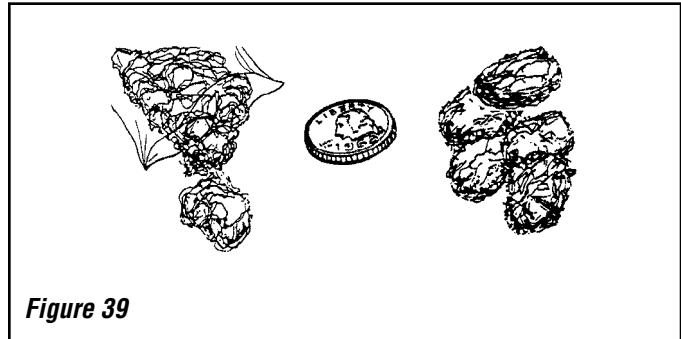
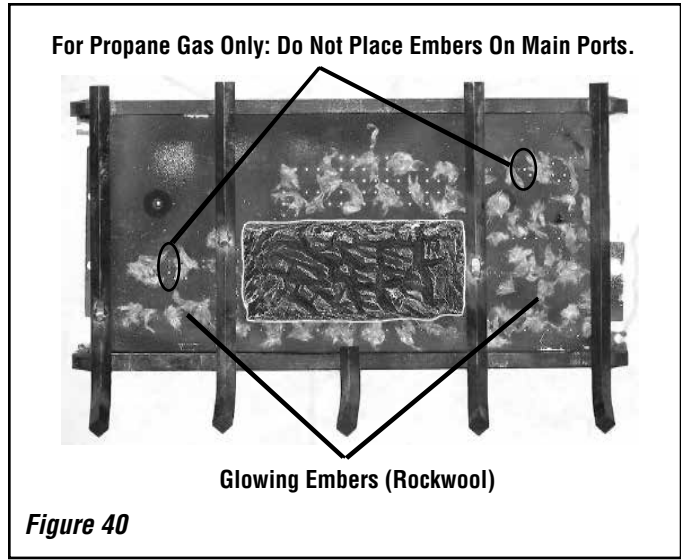

Figure 39
Figure 40
Step 3. Separate the glowing embers (rockwool) into pieces about the size of a quarter (see **Figure 39**). Keep the pieces fluffed, not matted. Distribute these pieces over the burner as shown in **Figure 40**. Do not use more than necessary. When properly positioned, the Glowing Embers will cover approximately 75% of the burner on natural gas. For propane gas, do not place embers on main ports.